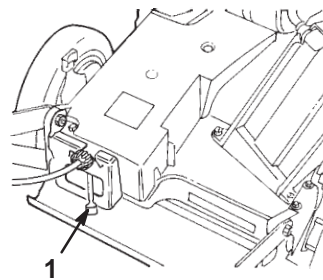

Figure 10
- Move the ground speed control to the  (**Neutral**) position (Fig. 10).
The lawn mower has 3 ground speeds. **1** is slow, **2** is medium, and **3** is fast. The ground speed control is located at the rear of the belt cover (Fig. 10).